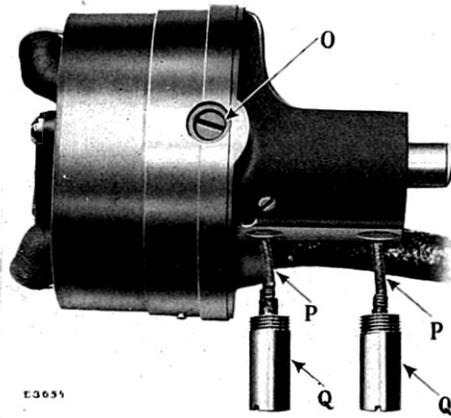
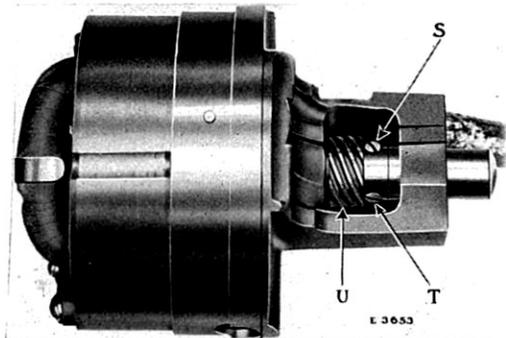
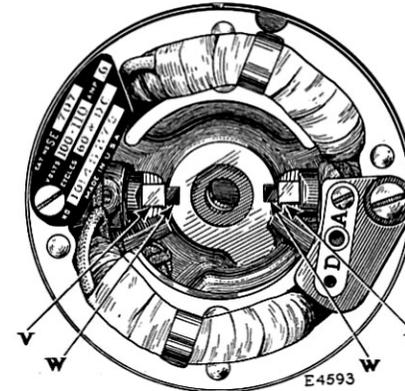
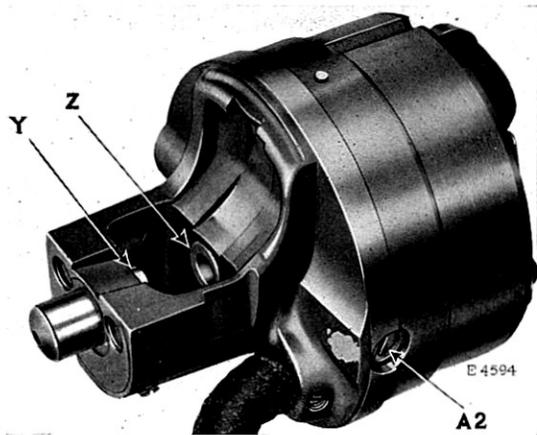

FIG. 11. VIEW OF MOTOR, SHOWING GREASE CUPS REMOVED
FIG. 12. VIEW OF MOTOR, SHOWING SPIRAL DRIVING PINION
FIG. 13. INTERNAL VIEW OF MOTOR, SHOWING BRUSHES AT THE SIDES
FIG. 14. VIEW OF MOTOR SHOWING CLEARANCE BETWEEN BEARINGS FOR SPIRAL DRIVING PINION
6. Carbon brushes (W, Fig. 13, page 13) not making contact due to sticking in brush tubes or on account of grease on the commutator.
Remove the motor from the machine, as instructed on pages 12 and 13, and see if armature turns over freely by running the finger over the spiral pinion (U, Fig. 12, page 12). If the armature turns stiffly, it should be adjusted to turn freely by following the instructions given on page 15.
1. Spiral pinion (U, Fig. 12, page 12) on motor shaft not properly adjusted.
2. No lubricant in grease cups (Q, Fig. 11, page 12).
3. Lubricating wicks (P, Fig. 11, page 12) not touching motor shaft.
4. Brush tubes (V, Fig. 13, page 13) rubbing on commutator.
Remove the two grease cups (Q, Fig. 11, page 12) to prevent the wicks (P, Fig. 11) being sheared off when replacing the armature in the motor frame.
Motors with brushes at the sides, as shown at "W" in Fig. 13, have two screws (O, Fig. 11) and (A2, Fig. 14, page 14) one being
Loosen the two set screws (S and T, Fig. 12) in the spiral pinion and withdraw the armature from the motor frame, being careful not to damage the wiring of the armature or the surface of the commutator.
By removing the armature from the motor frame, the spiral pinion (U, Fig. 12) is separated from the armature shaft so that it can be lifted out of the recess between the two motor bearings.
Place the spiral pinion (U, Fig. 12) in the recess between the two bearings in the motor frame, being careful to have the teeth of the spiral pinion toward the armature. Then gently replace the armature in the motor frame, passing the armature shaft through the hole in the spiral pinion (U). Push the armature into the motor frame as far as it will go, then push the spiral pinion against the inner bearing (Z, Fig. 14) in the motor frame, being careful to see that there is no grease or dirt between the pinion and bearing.
Fasten the spiral pinion to the armature shaft by means of the two set screws (S and T, Fig. 12, page 12) tightening first the set screw which bears against the flat part of the shaft. To determine the flat part of the shaft for the spiral pinion set screw, turn the armature shaft until the small flat mill on its end is in line with the set screw in the spiral pinion, then tighten the set screw.
The brush marked with the aluminum must be inserted into the screw hole in the side of the motor frame marked with aluminum, the unmarked end of the brush being inserted first with the marked side of the brush facing toward the marking on the motor frame. This will ensure a perfect contact of the brushes against the commutator surface of the motor. Having inserted the brushes and springs into the brush tubes (V, Fig. 13, page 13) replace the screws (O, Fig. 11, page 12) and (A2, Fig. 14, page 14) and turn each screw inwardly until the top of its head is flush with the top edge of the fibre tube.
See if motor armature turns over freely by running the finger over the spiral pinion (U, Fig. 12, page 12). If it turns stiffly, the spiral pinion may be set too tight against the inner bearing (Z, Fig. 14). In this case, insert a piece of heavy wire through the small hole in centre of the end of the outer bearing (Y, Fig. 14) and gently tap the wire until the armature turns freely without end play. The clearance for the spiral pinion (U) between the two motor bearings (Y and Z, Fig. 14) must be only sufficient to allow the spiral pinion to rotate without friction. Too much clearance will cause the armature to vibrate when running, making the motor noisy. If there is too much clearance, gently tap the end of the outer bearing (Y, Fig. 14) toward the spiral pinion.
Fill the two grease cups (Q, Fig. 11, page 12) with Singer Motor Lubricant. See that the two felt wicks (P, Fig. 11) are not twisted or bent, as the ends of the wicks must press positively against the motor shaft to ensure proper lubrication. Replace the grease cups in the motor frame, being careful to insert the wicks into the holes in the motor bearings. Then thoroughly grease the spiral pinion (U, Fig. 12, page 12) with Singer Motor Lubricant.